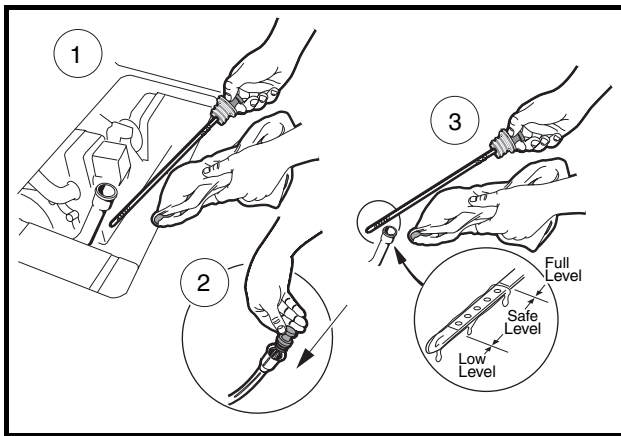

Figure 31 Engine Oil Level Check
1. Remove the oil level dipstick from the oil filler tube and wipe oil from stick (**Figure 31**). See following **CAUTION**.